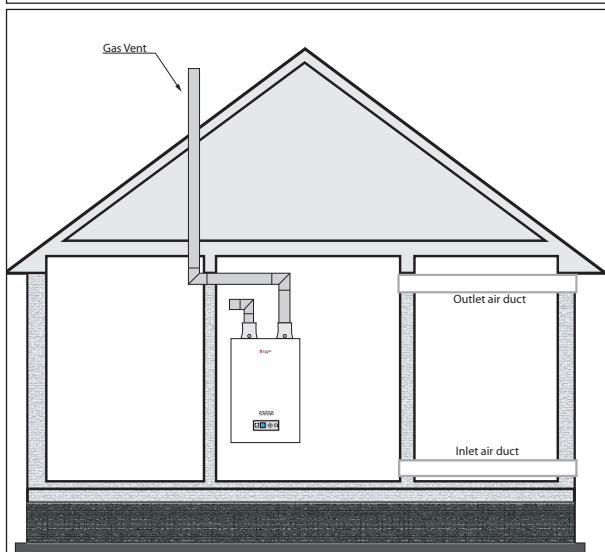

Fig. 4 - All Combustion Air from Outdoors Through Horizontal Ducts
- Where communicating with the outdoors is through horizontal ducts, each opening shall have a minimum free area of not less than 1 sq.in./2000 Btu/hr [645 mm² per 586 W] of total input rating of all equipment in the enclosure. *See Fig. 4 below.*